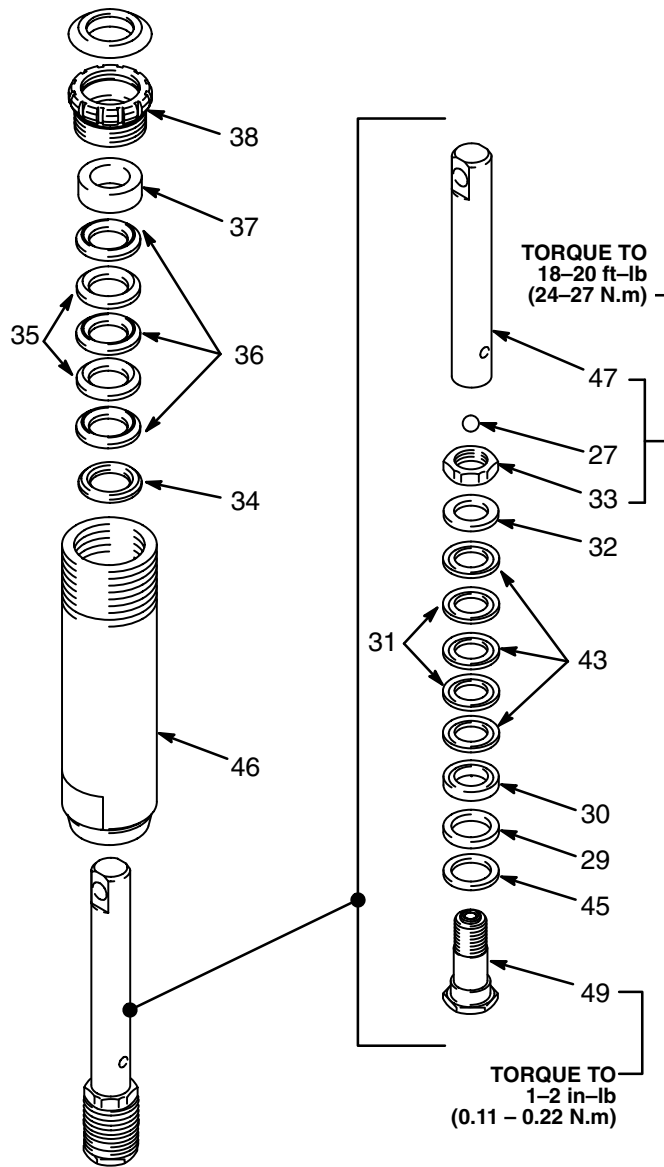
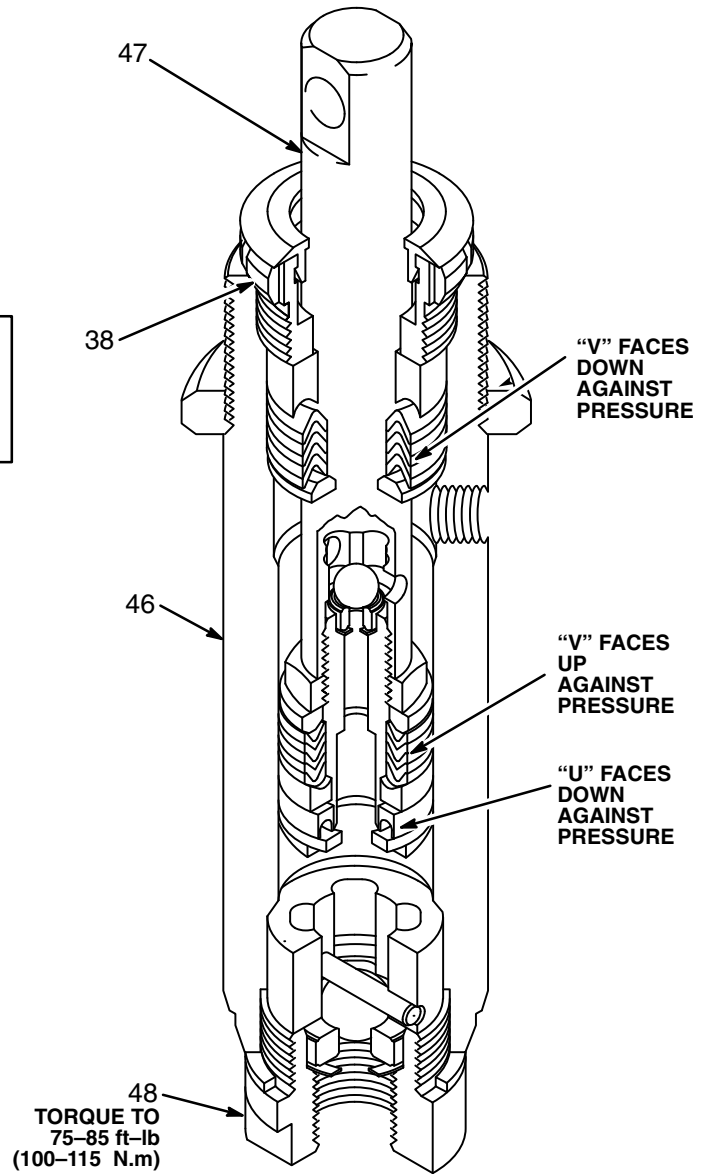

Fig 3
Fig 4
Unscrew and remove the packing nut (38). Using a rubber mallet, tap the piston rod (47) down and pull it out through the bottom of the cylinder (46). See Fig 3 and 4.
When reassembling the piston, install the new glands and packings in the correct order, alternating the leather and plastic packings. See Fig 3. The "V" of the packings must face up against the fluid pressure. See Fig 4. Tighten the nut (33) to 10.5 in-lb (1.2 N.m) to seat the packings, then back off the nut and hand tighten it.
Install the throat packings, glands and packing nut, leaving the packing nut loose. The "V" of the packings must face down against the fluid pressure. Alternate the plastic packings (36) and the leather packings (35). See Fig 3.